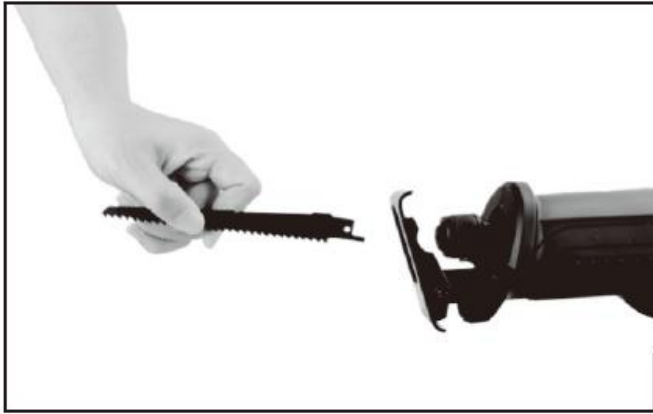

Fig. 2
- a) Turn the quick-release blade clamp (6) anticlockwise and insert the saw blade, then release the quick-release blade clamp(6). Make sure that the saw blade issecurely fastened. (Fig. 2)